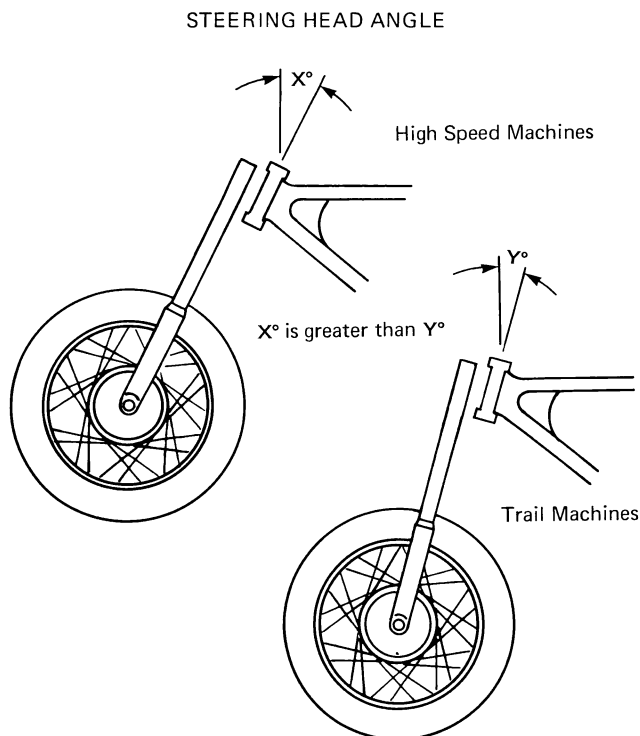

**Fig. 4-4** Steering head, exploded view (AMF Harley-Davidson Motor Co., Inc.)
**Steering Head.** The steering head is the tube at the top of the frame where the front fork assembly is attached (Fig. 4-4). The steering head incorporates two sets of ball bearings for easy